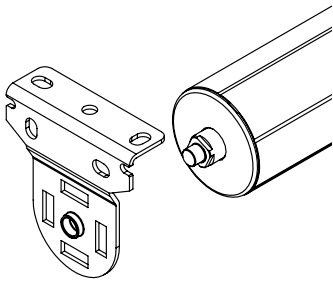

Figure 11A. End Pin Bracket
Step 7. To install, insert the heavy duty end pin side of the tube into the center hole of the wall bracket shown in **Figure 11A**. While putting pressure on the spring pin, install the motor end onto the other bracket. The spring pressure will allow the tabs on the motor end to seat into the bracket as shown in **Figure 11B**.